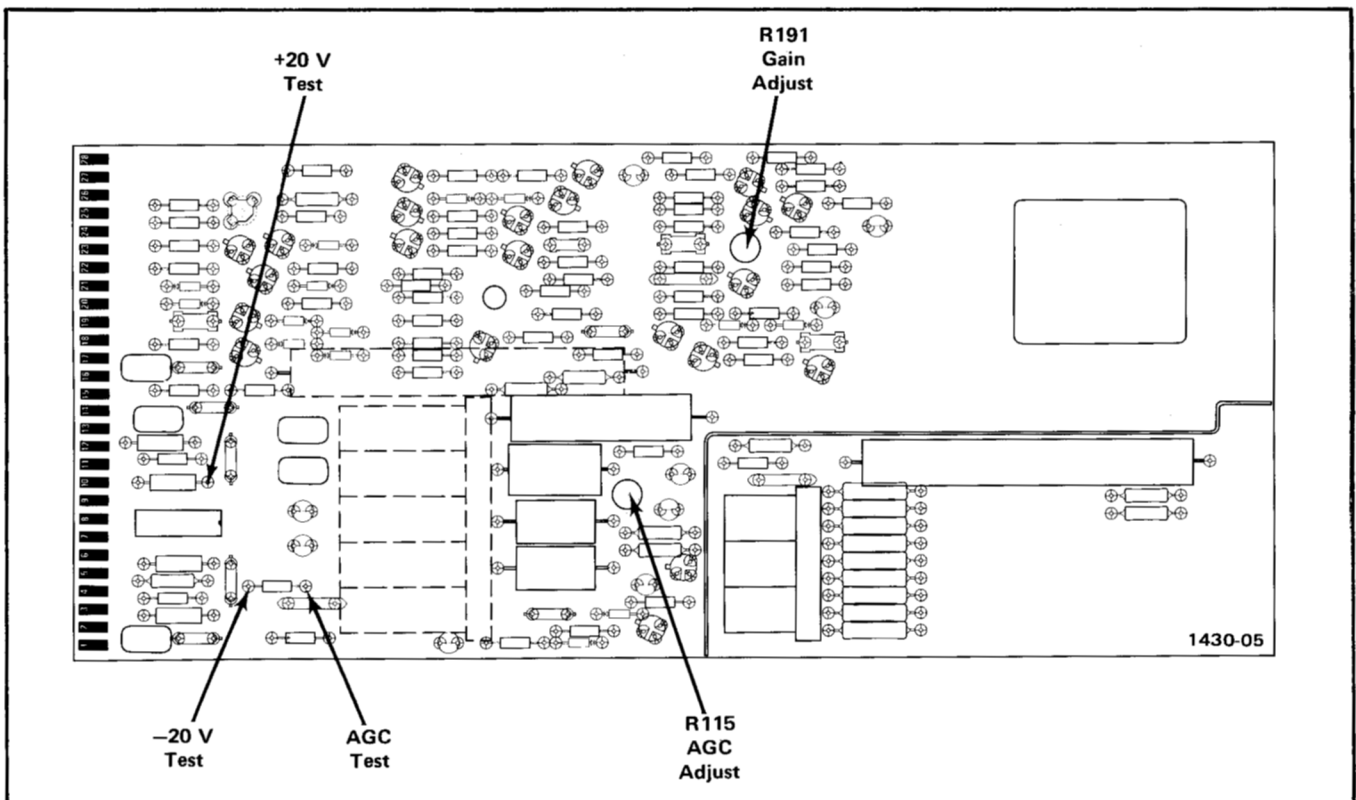

Fig. 3-1. Location of test points, AGC and Gain adjustments.
- a. Connect the digital voltmeter between +20 V test point on the circuit board, and chassis ground. See Fig. 3-1 for voltage test point location.
- a. Connect the digital voltmeter between the AGC test point on the circuit board, and chassis ground. See Fig. 3-1 for test point location.
- c. ADJUST—AGC Adjust, R115, for a meter reading of -2.5 volts. See Fig. 3-1 for adjustment location.
- d. ADJUST—Gain Adjust, R191, for a meter reading of 5 volts, rms. See Fig. 3-1 for adjustment location.